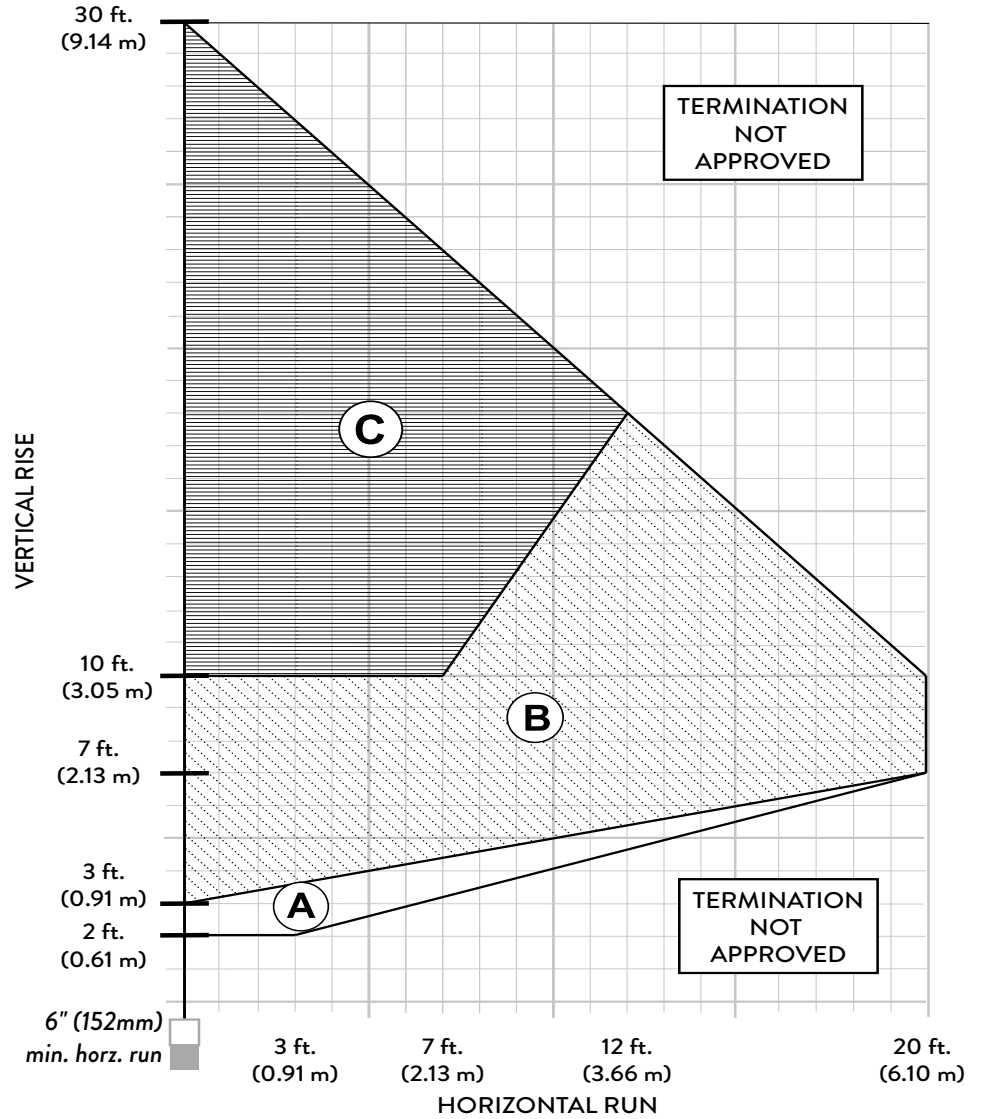
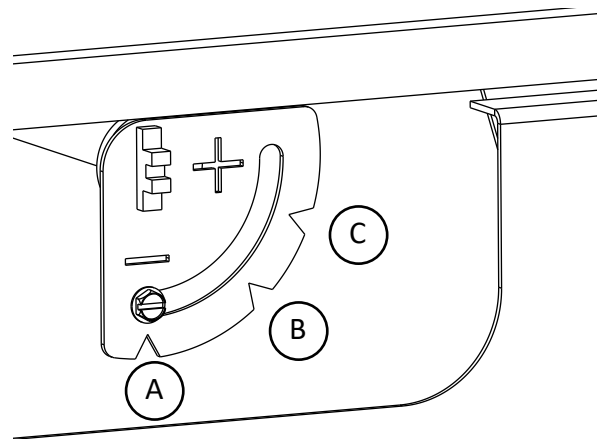

Figure 6.2.
Figure 6.4.
The Exhaust Restrictor plate is located on the rear of the firebox. It is adjusted by rotating the dial on the back shroud within a range beginning at the factory-set, fully open position (no restriction) to a fully restricted position. See Figs. 6.2 and 6.3. The Minus (-) and Plus (+) signs on the dial relate to degrees of restriction, from zero to approximately 70%. The three, lettered positions correlate to the termination zones (A,B,C) diagrammed in figure 6.4. Use the diagram to determine the degree of restriction and shutter setting that correlates to your vent configuration.
Determine the dial notch position appropriate to your vent configuration as designated in Fig 6.2. Pivot the dial to align the screw with that notch.
- The termination should fall within the shaded areas of the grids depicted in the Vent Matrix, fig. 6.2, page 11.
- **Maximum Horizontal run is 20 ft. (152 cm)** See Fig. 6.2 for related termination zone limitations.
- Any horizontal termination must fall within the shaded portion of the vent window matrix shown in fig. 6.2.